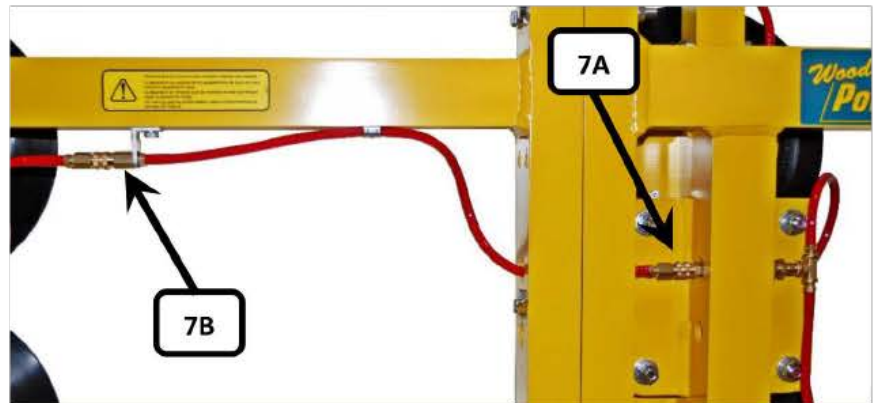

FIGURE 7
See **FIGURE 7**.
- 27) Begin by separating the two pad arms. Disconnect the inner quick connect to the outer pad arm (**7A** shown in **FIGURE 7**).